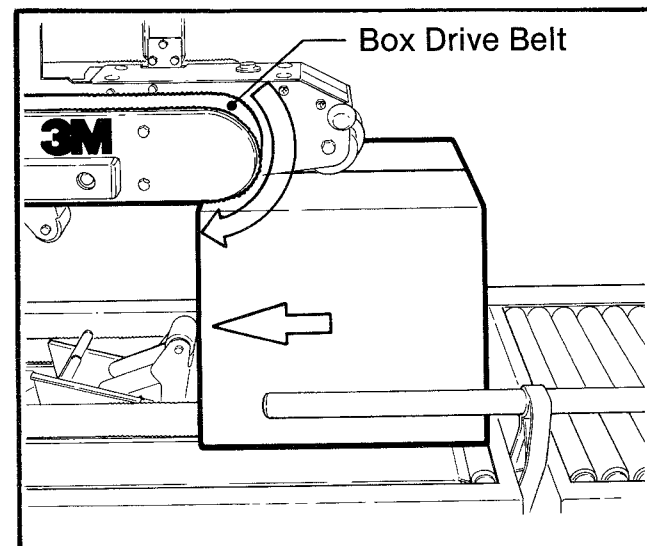

Figure 12 - Drive Belts
3. Once the box is pushed under the top taping head, the top taping head valve lever is released causing the top taping head to descend onto the box top, as shown in Figure 12, allowing the drive belts to convey the box through the **top and bottom taping heads** for application of the tape seals.